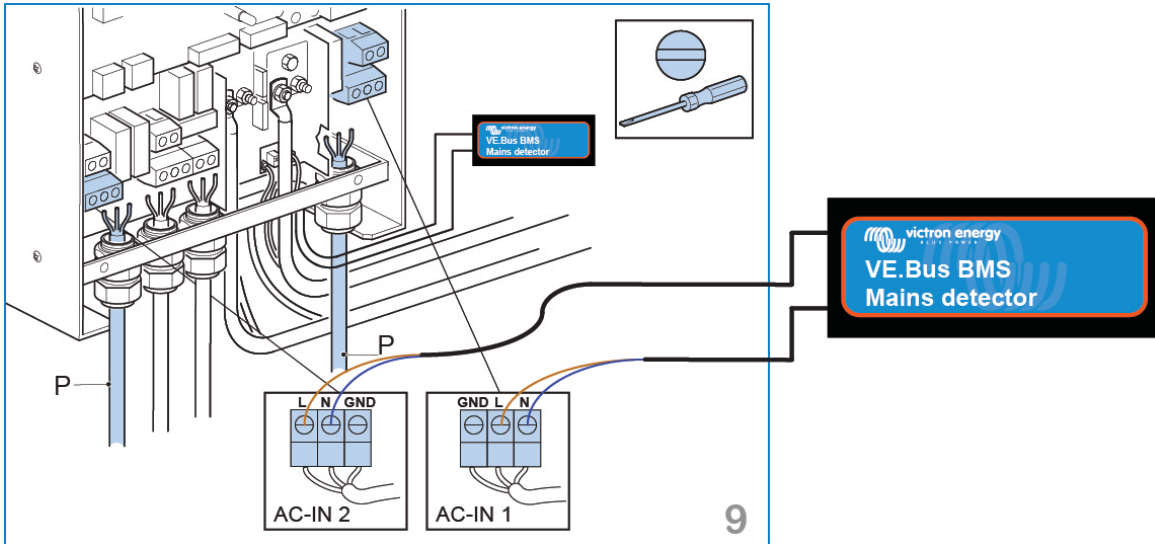

Figure 3: Connecting the AC Detector
**Installation procedure (see figure 3)**